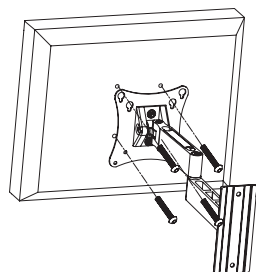

fig. 4.1
Insert four M4 x 25mm (or 15mm) screws (E or F) into holes on reverse side of screen, leaving approximately 6mm of thread. Hook screws onto keyslots of wall arm assembly (A) as indicated in fig. 4.1 and fig. 4.2.